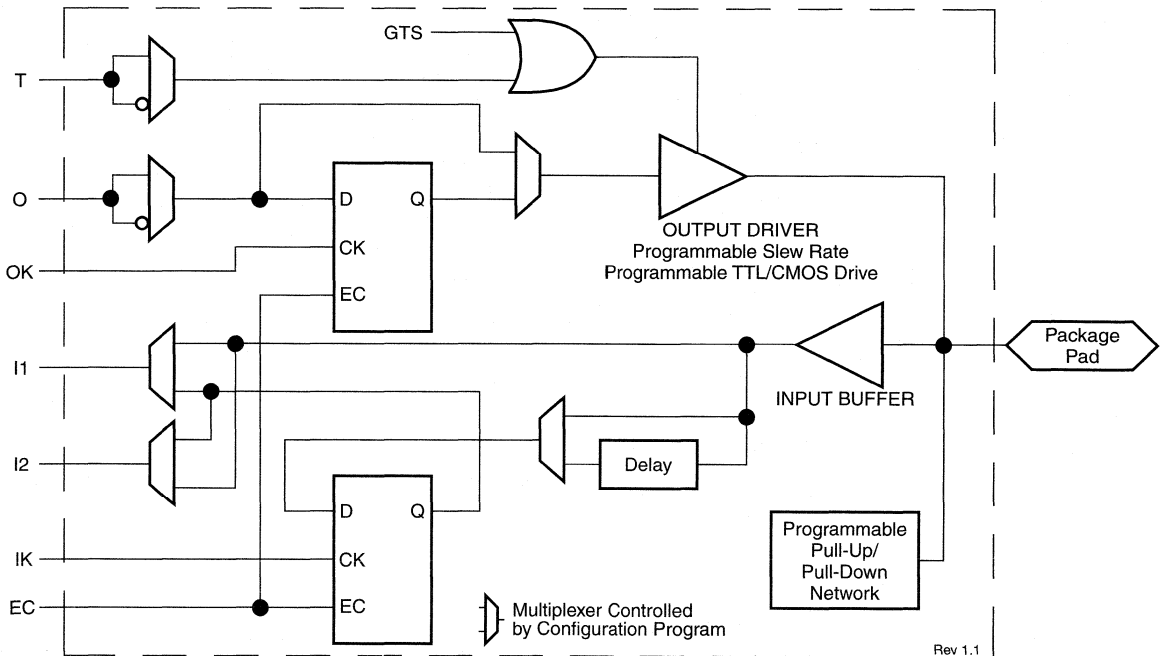
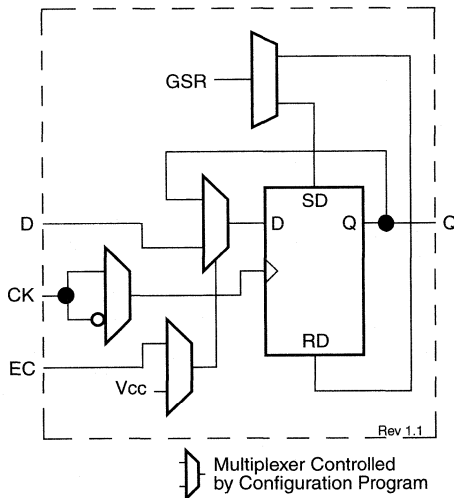

Figure 5: Simplified Spartan IOB Block Diagram
Figure 6: IOB Flip-Flop/Latch Functional Block Diagram
figured for input, output, or bidirectional signals. Figure 5 shows a simplified functional block diagram of the Spartan IOB.
The input signal to the IOB can be configured to either go directly to the routing channels (via I1 and I2 in Figure 5) or to the input register. The input register can be programmed as either an edge-triggered flip-flop or a level-sensitive latch. The functionality of this register is shown in Table 3, and a simplified block diagram of the register can be seen in Figure 6.
The register choice is made by placing the appropriate library symbol. For example, IFD is the basic input flip-flop (rising edge triggered), and ILD is the basic input latch (transparent-High). Variations with inverted clocks are also available. The clock signal inverter is also shown in Figure 6 on the CK line.
The output of the input register goes to the routing channels (via I1 and I2 in Figure 5). The I1 and I2 signals that exit the IOB can each carry either the direct or registered input signal.
An active-High 3-state signal can be used to place the output buffer in a high-impedance state, implementing 3-state outputs or bidirectional I/O. Under configuration control, the output (O) and output 3-state (T) signals can be inverted. The polarity of these signals is independently configured for each IOB (see Figure 5).
As with the CLB registers, the GSR signal can be used to set or clear the input and output registers, depending on the value of the INIT attribute or property. The two flip-flops can be individually configured to set or clear on reset and after configuration. Other than the global GSR net, no user-controlled set/reset signal is available to the I/O flip-flops (see Figure 6). The choice of set or reset applies to both the
The input and output flip-flops in each IOB have a common clock enable input (EC), which through configuration, can be activated individually (see EC signal in Figure 6) for the input or output flip-flop, or both. This clock enable operates exactly like the EC signal on the Spartan Series CLB. It cannot be inverted within the IOB.